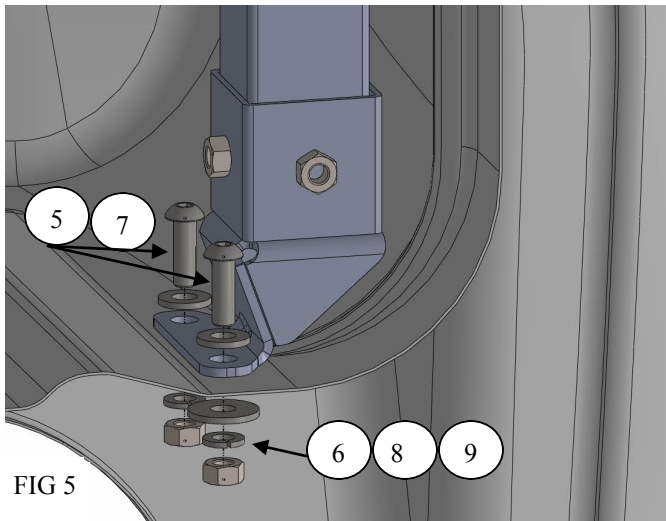

FIG 5
7. Install the upper and lower mounting bracket as shown in figures 5&6. If there is no rear access to the drilled holes follow step 7a to install rivet-nuts.